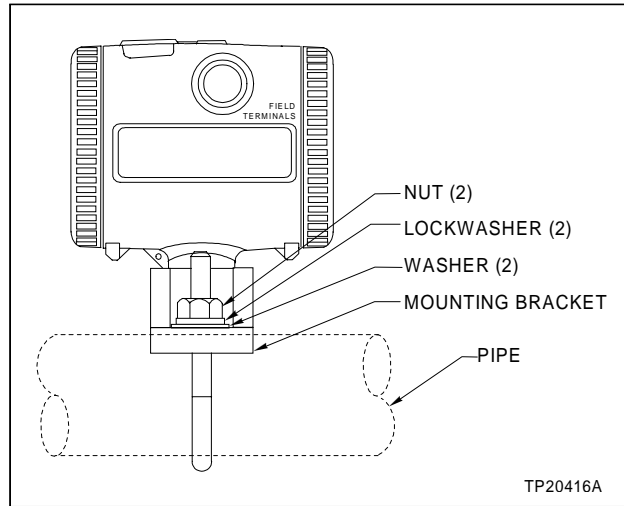

Figure I3-2. Pipe Mounting
4. Place the transmitter, with mounting bracket attached, on the pipe to which it will be mounted (Fig. I3-2).
5. Place the U-bolt around the pipe and through the two mounting bracket holes (Fig. I3-2).
6. Place a 0.375 washer over each end of the U-bolt (Fig. I3-2).
7. Place a 0.375 lock washer over each end of the U-bolt (Fig. I3-2).
8. Install a nut on each end of the U-bolt and use the ratchet with $\frac{1}{16}$ -inch socket to tighten the nuts (Fig. I3-2).